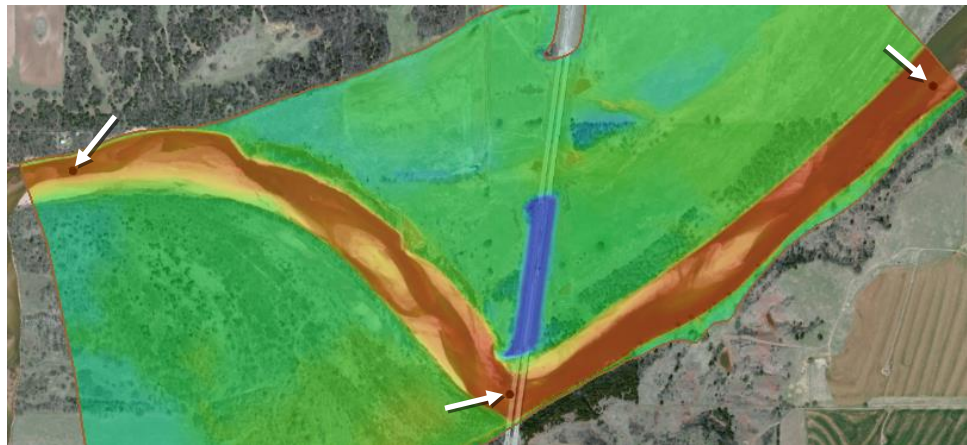

Figure 6 Monitor points at upstream, midway between, and downstream
5. Using the **Create Feature Point**  tool, create three monitor points as shown in Figure 6.